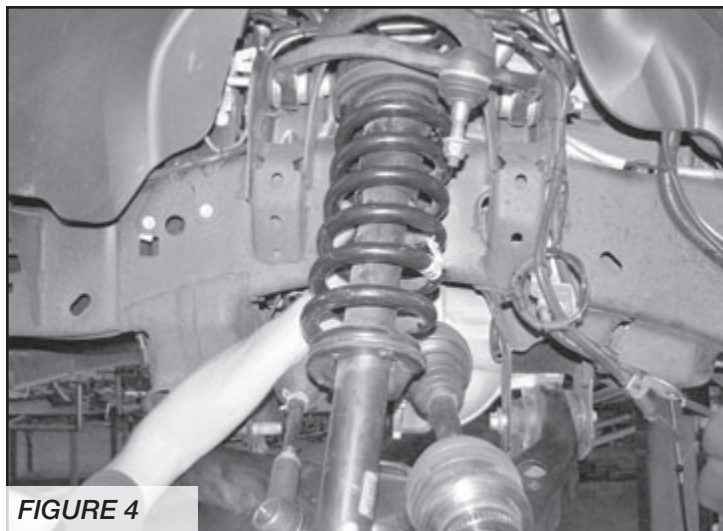

FIGURE 4
10. Locate the lower shock mount bolt and remove. Save the hardware. Locate the three upper nuts and remove. Save the hardware. Remove the shock assembly from the vehicle and mark "Driver" for reassembly later with Fabtech shock. **SEE FIGURE 4**